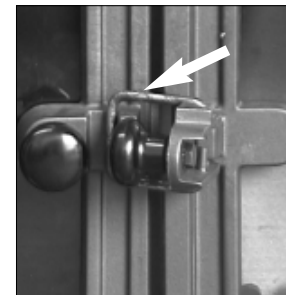

Fig.2
- 2 Locate right hand side door catch over adjustable grub screw on left hand door (see fig2).
The recess should be formed using an appropriately designed raft lintel to support the existing structural brickwork and chimney. The minimum clearances between the appliance and walls are illustrated in figs 2 & 3.
5 Use a length of 316 grade 1mm thick stainless steel flue pipe or other pipe which complies with Current Building Regulations for the installation of solid fuel burning appliances, connected from the flue spigot on the appliance to the main chimney. See fig 2 page 4.
The finished hearth surface (e.g. hearth tiles) should be approximately 6mm below the bottom of the doors. See fig. 2 page 4.
50mm thick lightweight building blocks backed with Dovre insulation panels are ideal for constructing the facing wall of the convection chamber. See fig 2 & 3 page 4.